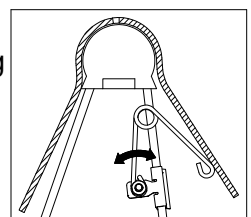

FIGURE E2: Cutaway view of driver side pivot arm and saddle.
- Adjust the resting angle of your coupler plate by rotating the spring on the driver side pivot arm. Pulling the top of the spring away from the cab will increase the angle of the coupler plate. Set the angle of the coupler so that head will tilt away from the cab when coupling, see figure E2. Tighten the 1/4" nut once the spring's orientation is set.